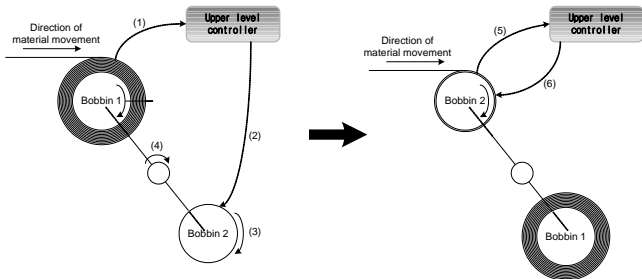

Fig. 1.7.2 Conceptual diagram of splicing
Fig. 1.7.2 illustrates the usual structure of winder splicing systems. The operation sequence of the structure shown in Fig. 1.7.2 is as follows.
When Bobbin 1 is almost completely full, it sends a signal to inform the upper level controller (Fig. 1.7.2 (1)).
The upper level controller then issues an ON signal to the inverter multi-function input specified in "57: Web Splice" that controls empty Bobbin 2 (Fig. 1.7.2 (2)).
The inverter interrupts the output of the Web PID controller. In this situation, the inverter uses a combination of the main speed command (%) and APP93 (Splice Level) as the command value, as shown in Eq. 1.7.6-Eq. 1.7.8, to activate empty Bobbin 2 (Fig. 1.7.2 (3)).
The axis between the bobbins rotates 180 degrees, so Bobbins 1 and 2 switch position (Fig. 1.7.2 (4)).
Bobbin 2 sends a signal to the upper level controller to confirm that the switch is complete (Fig. 1.7.2 (5)).
The upper level controller sends an OFF signal to the inverter's corresponding multi-function input specified in "57: Web Splice" to control Bobbin 2, which interrupts the splicing operation. Then, the Web PID controller resumes operation and diameter computation begins again, so the frequency of inverter is once again determined by Eq. 1.7.5 (Fig. 1.7.2 (6)).